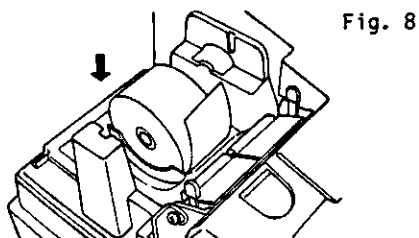

Fig. 8
4. Place the paper roll in the inner-side roll holder of the two holders. (Fig.8)